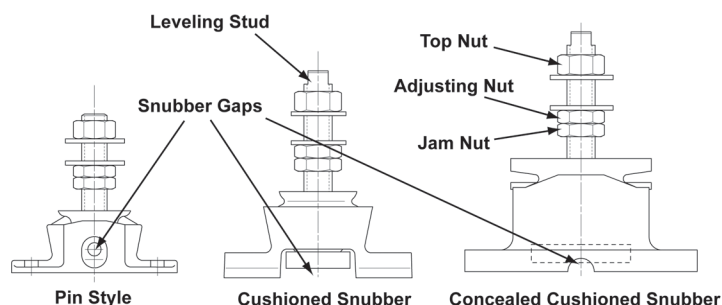

Figure 4-16: Vibration Isolator Snubber Gaps (Cast Housings)
Assemble the isolators to the engine mounts. The proper orientation of the fastening hardware on the isolator stud from bottom to top is: jam nut, adjusting nut, washer, engine mount, washer, and top nut (see Figure 4-16). Position the nuts so that some thread adjustment is available both upward and downward. If the engine mount is slotted, position the leveling stud in the center of the slot. This will allow for adjustment in all directions when performing the engine alignment.
2. Lower the engine into place so the four isolator bases rest in the desired position on the stringers. Bolt them lightly to the stringers. Do not remove the lifting hoist yet. Align the engine and marine gear with the propeller shaft to specification, and then begin to transfer the weight of the engine from the hoist to the mounts by using the adjusting nuts on all the isolators (see Figure 4-16). Do not move the adjusting nuts without assist from the hoist until the engine weight is close to evenly distributed. Failure to support the engine could result in damage to the stud and nut threads. Once the weight is evenly distributed, the hoist can be removed.
should maintain a clearance of at least 1mm (0.040 in). The gaps above and below the snubber will vary from 1 to 5 mm (0.04-0.20 inch), depending on the load (see Figure 4-16).
On cast housing isolators with a concealed snubber, a feeler gage can be inserted through the half-moon opening under the base casting to get an approximate measurement of the gap. If the gap is 8 mm (0.312 in) or more, the isolator is under-loaded. If the gap is less than 1mm (.040in), the isolator is overloaded (see Figure 4-16).
On pin-style isolators, the pin serves as a load indicator. The isolator is correctly loaded when the pin is at least 3 mm (0.125 in) from the edge of the hole in the cast housing. If the pin is touching the top of the hole, the mount is under loaded and will not isolate well. If the pin is at the bottom, the mount is overloaded (see Figure 4-16).